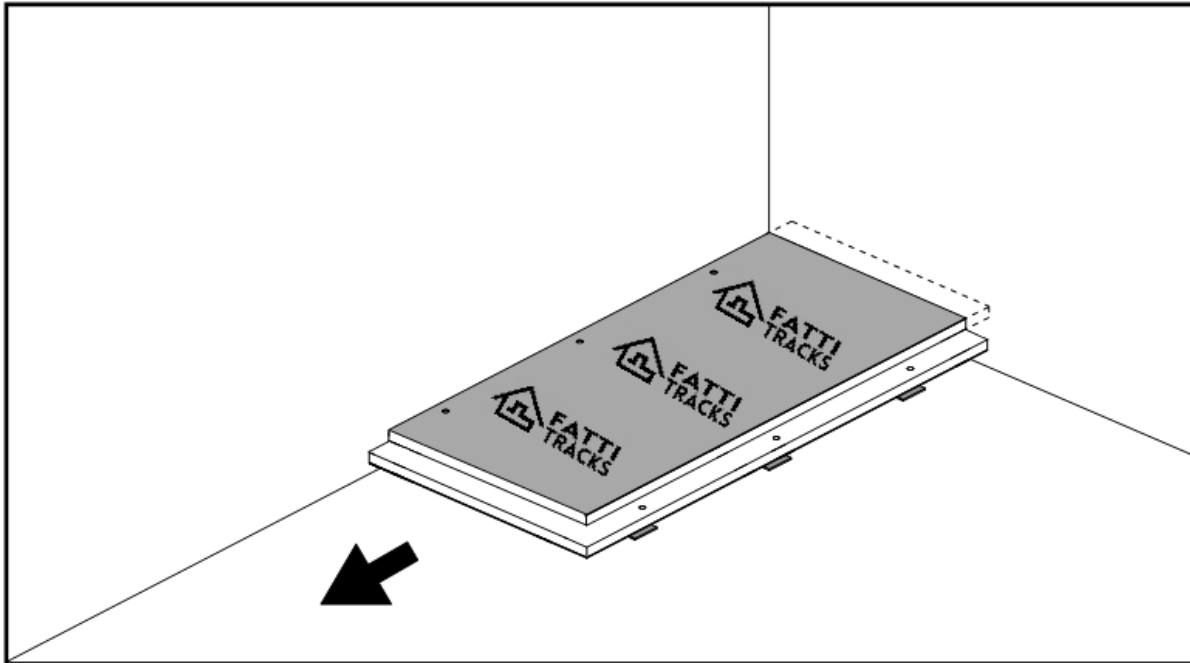

Fig. 1
- Determine the number of starter and interior panels you need to cover the area. Starter panels are required only for the first row (see fig. 1). Starter panels and interior panels measure 2'-0" x 4'-0", but have an overall area of 6.79 ft² due to the overlapping joints.
- Working right to left, begin by placing a starter panel in the furthest right-hand corner of the room (see fig. 1).